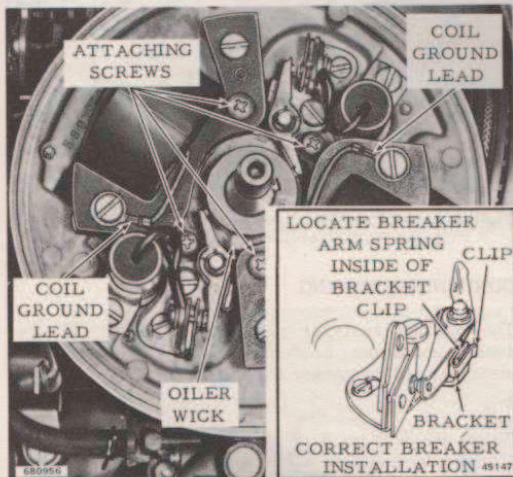
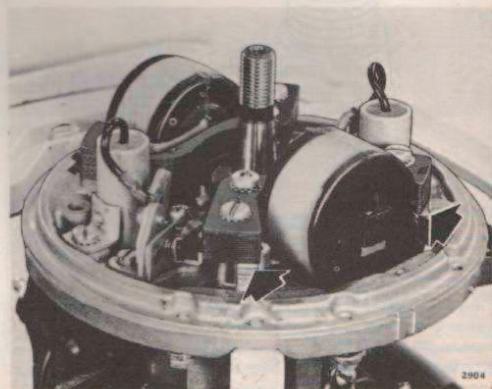
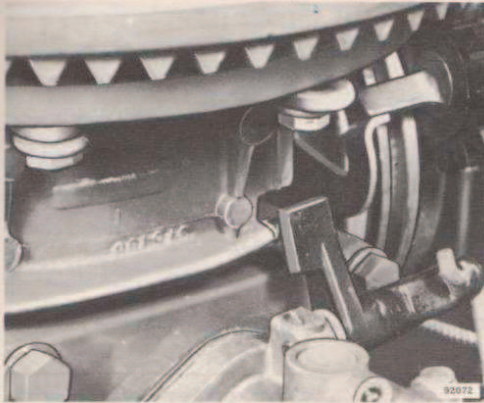

Figure 4-6. Armature Plate Attaching Screws
Figure 4-14. Coil Locating Bosses
Figure 4-18. Throttle Control Cam and Follower
e. Loosen the four Phillips head screws retaining the armature plate. Remove armature plate from power head. See Figure 4-6.
- a. Refer to Figures 4-6 and 4-7 for correct assembly. Correct locating of the coil and lamination assemblies is governed by machined mounting surfaces on the armature plate. Coil lamination heels should be flush with machined surfaces. See Figure 4-14.
b. Make sure that a new oiler wick is installed under the forward coil. See Figure 4-6.
d. Place the armature plate in position over the crankshaft, using care to avoid damaging the breaker arms on the cam. Make sure that throttle cam follower is not caught under throttle control cam. See Figure 4-18. Tighten the four Phillips head screws. See Figure 4-6.